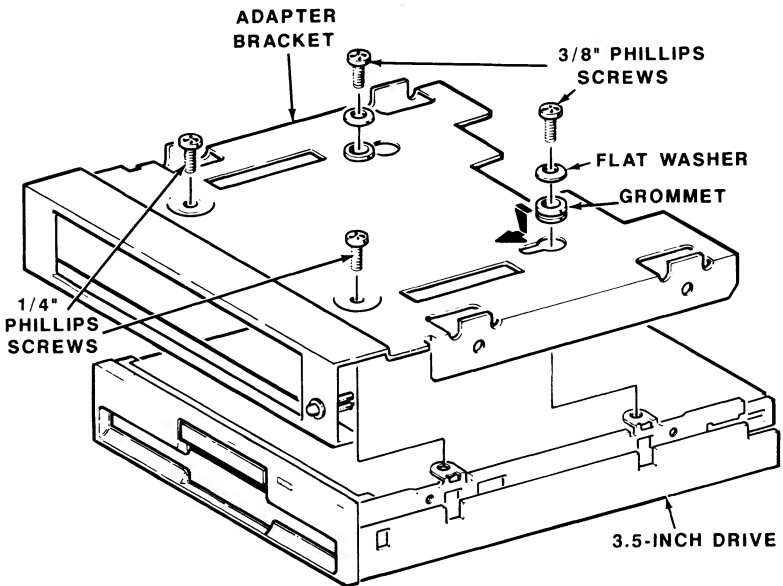

Figure 5-9. Mounting the Adapter Bracket to the Drive
7. Mount the adapter bracket to the 3.5-inch drive as shown in Figure 5-9. The adapter bracket and hardware to mount the drive are supplied with the drive.